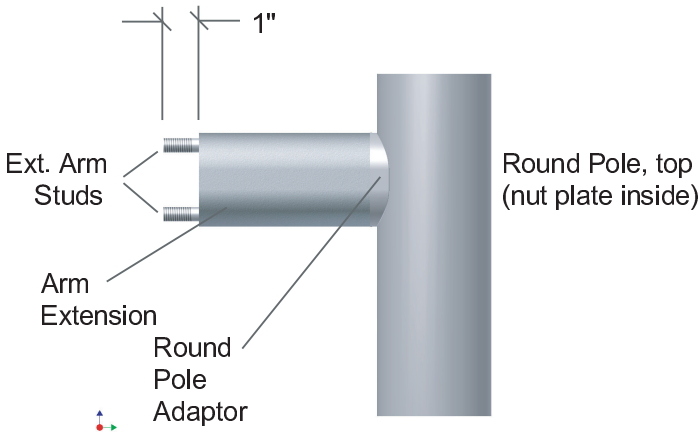

FIGURE 7
D. USING EXTENSION ARM ON ROUND POLE - FIGURE 7
- 4. With nut plate inside pole, thread extension arm studs thru top and bottom extension arm holes, then thru top and bottom pole adaptor holes, then thru top and bottom pole holes, then into nut plate. See Figure 7.